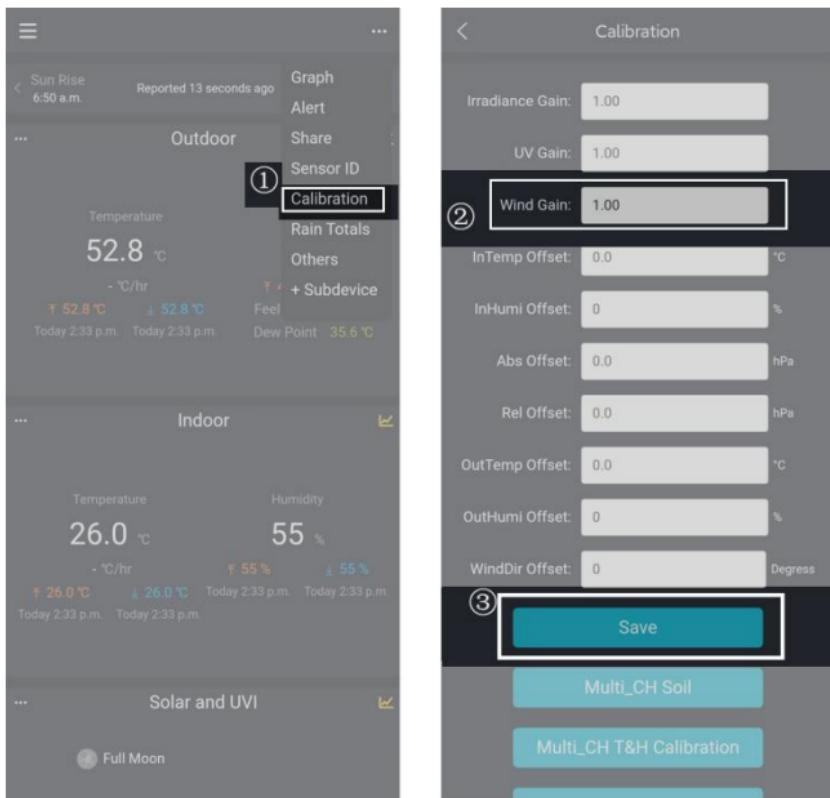

Figure 8
4. For a certain parameter (Use “Wind Gain” as an illustration in Figure 8). Calculate the offset or gain based on data from reference and ecowitt sensor.